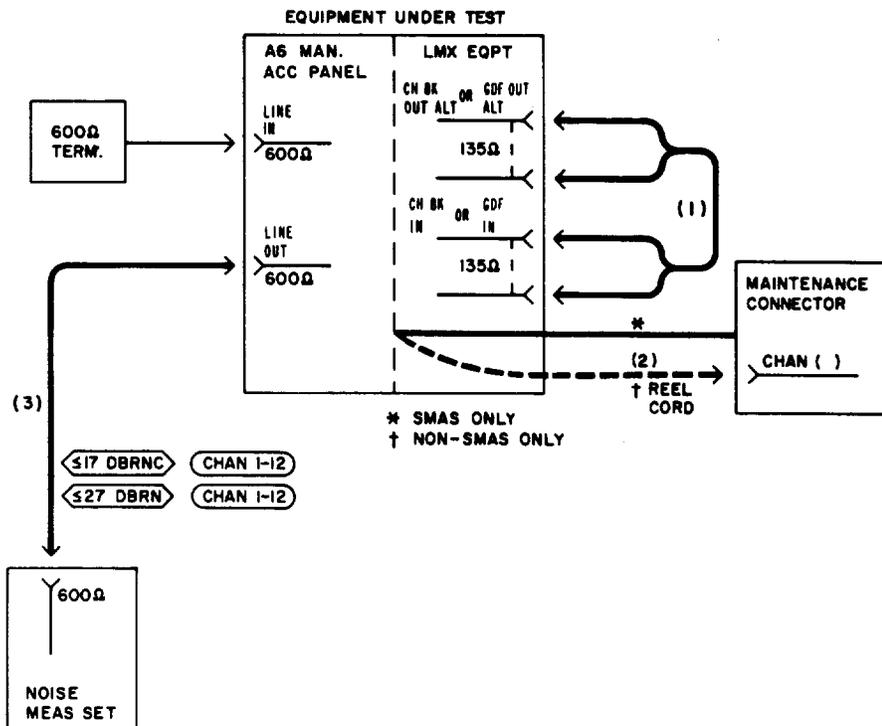

Fig. 20—Patching Diagram—Noise Test—Unequal-Level Looping
- 14b† Connect the retractable cord (on the 22AU MAP) to the CHAN BANK connector (on the maintenance connector) for Channel 1 [patch (2), Fig. 20].
- 16 Insert a 262B plug (600-ohm termination) in the LINE IN jack (Fig. 20).
- 17 Connect the NMS to the LINE OUT jack [patch (3), Fig. 20].
25*	Remove patch (3), Fig. 20, and the 262B plug (inserted in Step 16).
26†	Remove the retractable cord (on the 22AU MAP) from the channel under test [patch (2), Fig. 20].
28†	Remove patch (3), Fig. 20, and the 262B plug (inserted in Step 16).
29	At the LMX equipment, remove patch (1), Fig. 20.